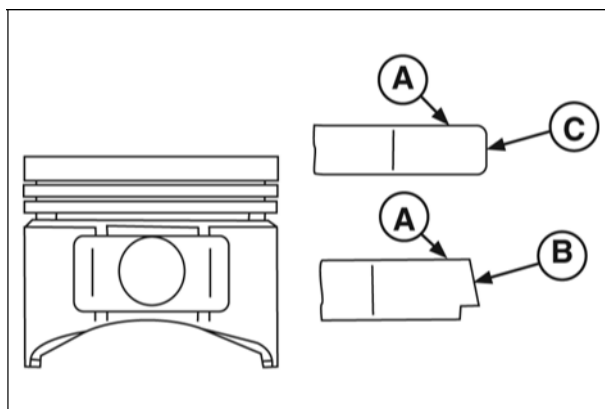

Figure 13
4. Using ring expander, install center compression ring then, top compression ring with ID marks up (Figure 13).